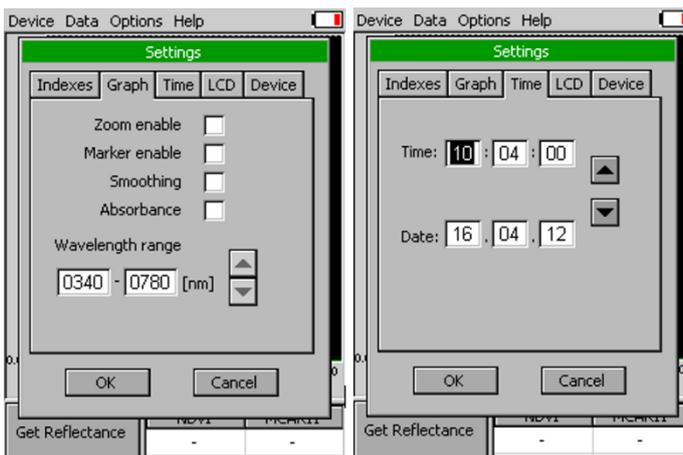

Fig. 9 Settings – Graph and Time
- **Graph** – displays options for setting the wavelength range and graph features (Fig. 9).
- **Time** - Set the actual time and date (all data files are stored by time and date signature). To change time, touch on one of the values and adjust it using the arrows (Fig. 9).